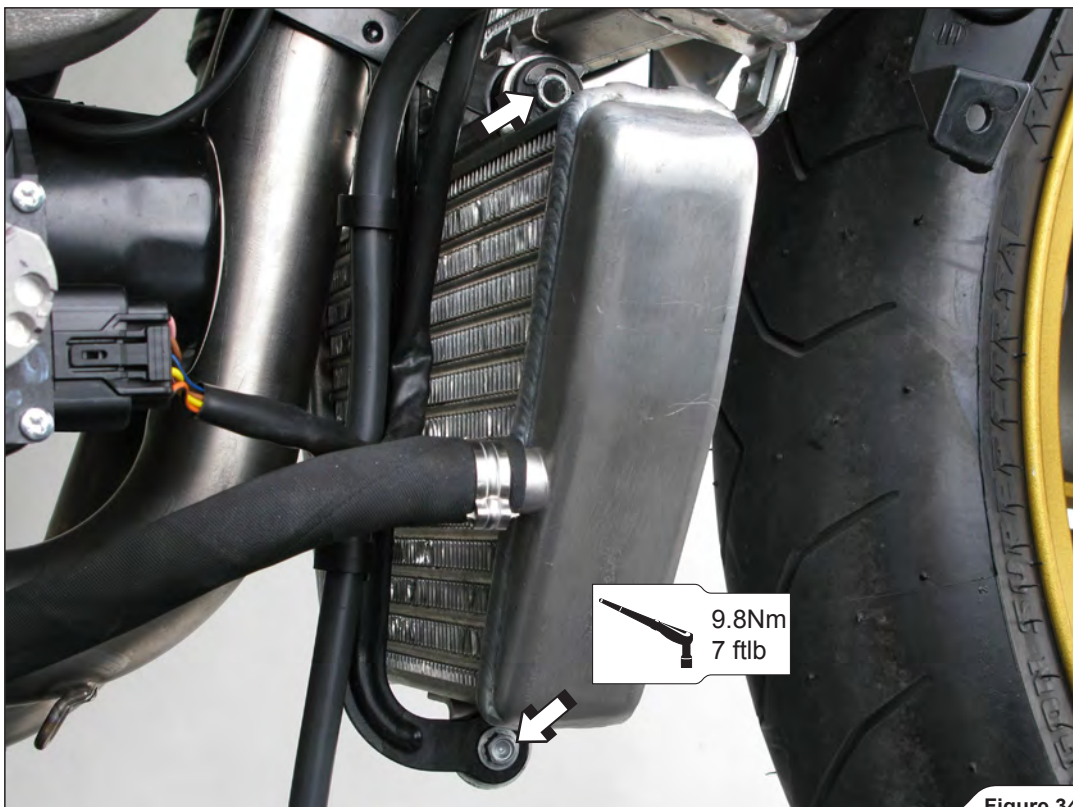

Figure 34
- Attach the oil cooler in the reverse order from the order in which it was removed (Figure 34).